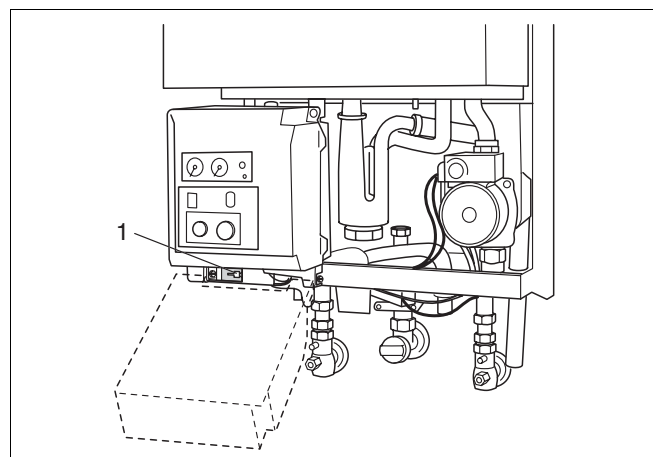

Fig. 88 KIM connections
- Check 4 pin connector (fig. 88, item 1) is fitted and secure.